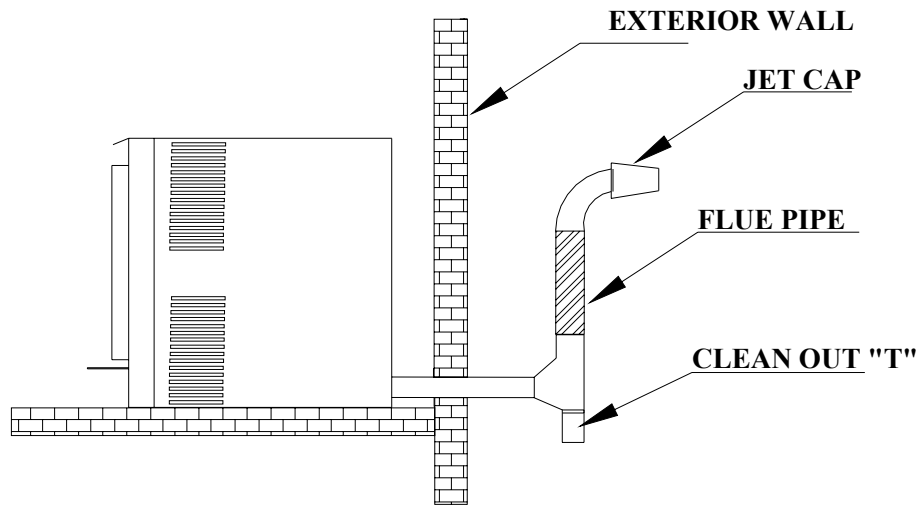

FIGURE 3: RECOMMENDED EXTERIOR WALL INSTALLATION
8. For installations that pass through a vertical wall and not through the roof, The Factory recommends an installation similar to the one shown in FIGURE 3. Dimension A should be a minimum of 16" and dimension B should be a minimum of 3". Any outside vent should have a vertical run of at least 5'. At the same time, ensure that termination of the flue pipe does not occur just under the roof overhang. Such a termination can cause smoke to seep back through the roof and into the home. For all flue pipe runs over 5', there should be a flue support no less than 5' apart.